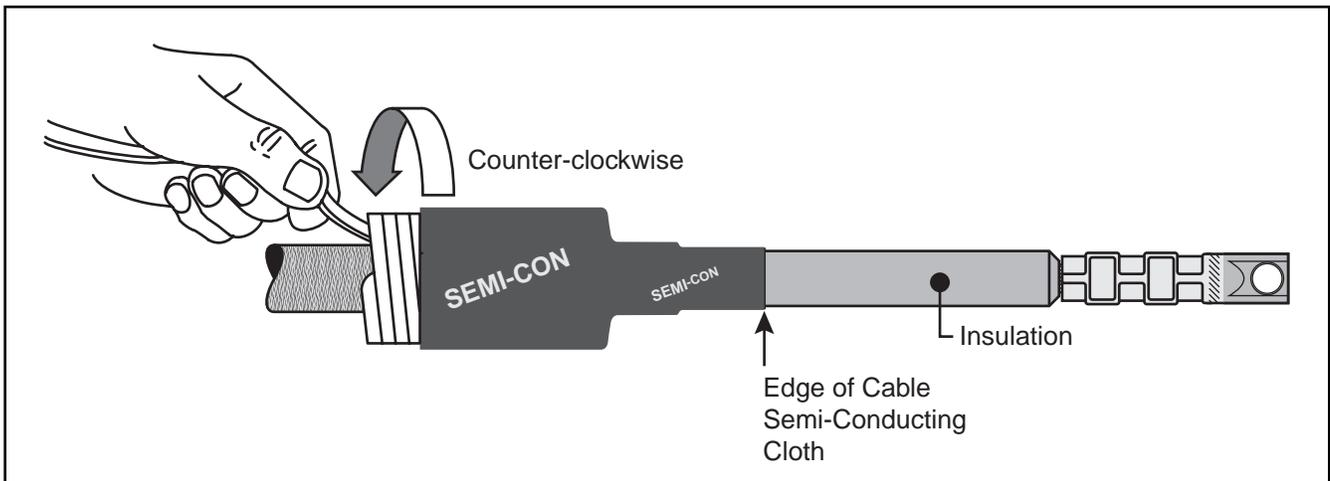

Figure 6
3.2 Align the leading edge of the semi-con tubes (not the cores) with the edge of cable semi-conducting cloth. Remove Cold Shrink core by UNWINDING COUNTER-CLOCKWISE. (Figure 6.)